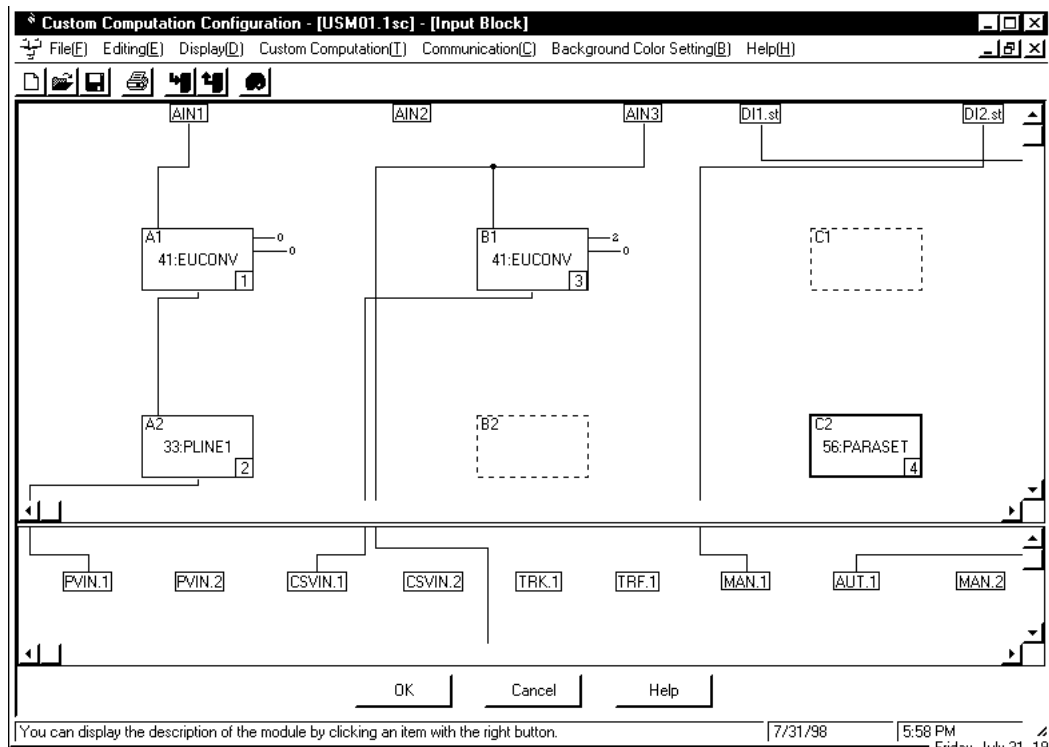

Figure 12.6.4 Example of the [Input Block] Dialog Box where the PARASET Module Is Registered As the Fourth-run Module
- ③ Click the <Special Function> index.
- ④ Double-click <56: PARASET>. The PARASET module is registered with the [Input Block] dialog box, as shown in Figure 12.6.4.